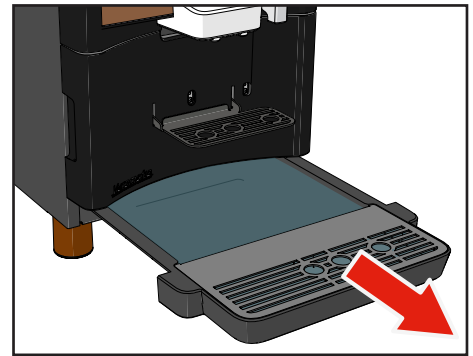

Figure 22.
1. Carefully take the drip tray out of the machine (see Figure 22).